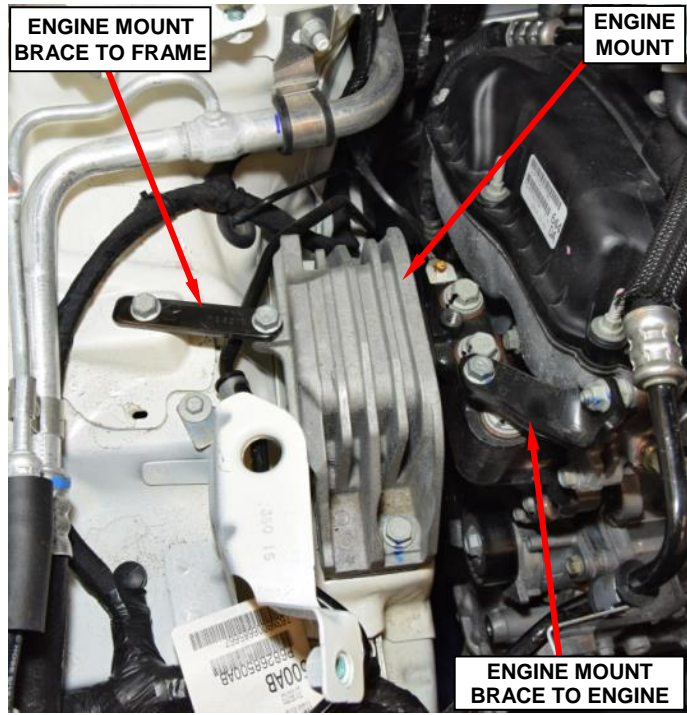

Figure 102 – Front Engine Mount Braces
98. Remove and save the nut and bolt securing the engine mount brace between the engine and the engine mount (Figure 102).
99. Remove and save the engine mount brace (Figure 102).
100. Remove and save the two bolts securing the engine mount brace between the engine and the frame rail (Figure 102).
101. Remove and save the engine mount brace (Figure 102).